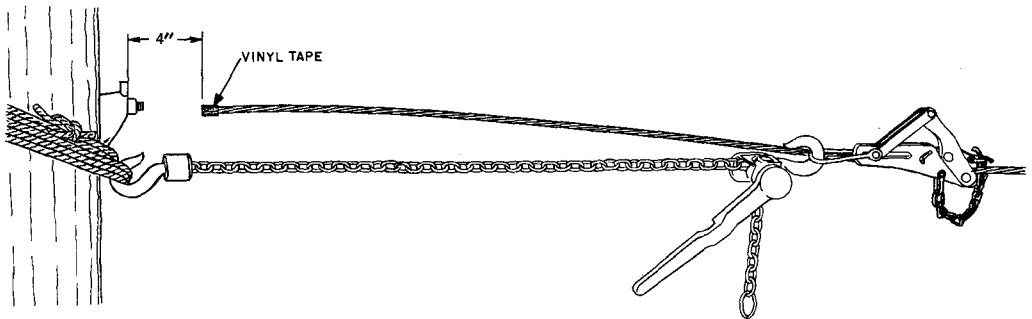

Fig. 5—Tensioned Strand
- (b) Pull the strand to the desired tension. Apply two layers of vinyl tape approximately 4 inches short of the dead-ending hardware and cut the strand at that point as illustrated in Fig. 5. Avoid excessive taping.